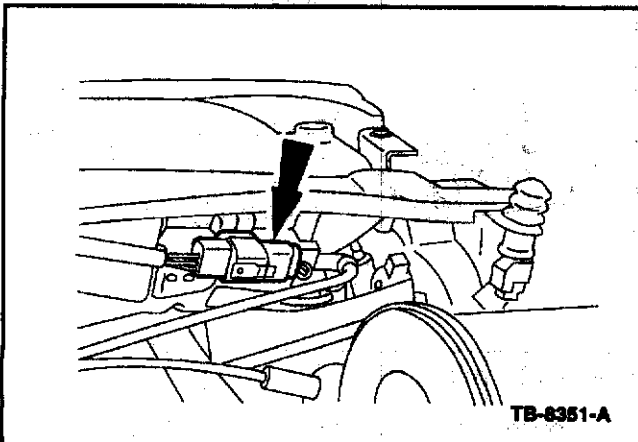

Figure 5 - Article 06-14-10
6. Disconnect the electrical connector. (Figure 5)